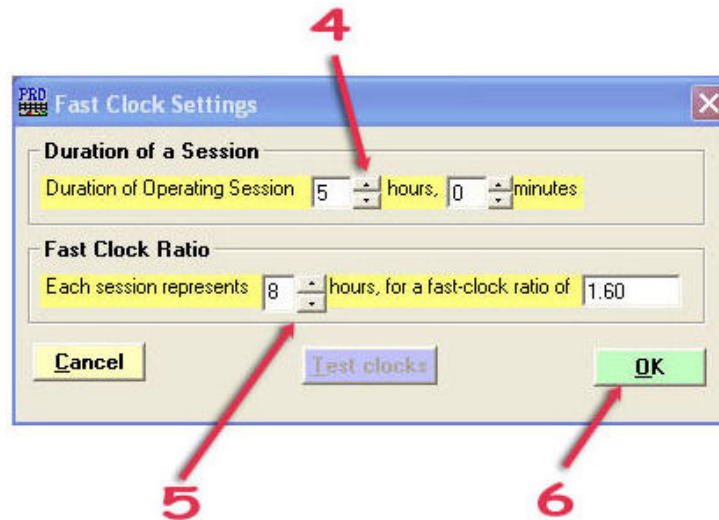

Figure 2-1
1. Figure 2-1 shows the Fast Clock settings that are supplied with the sample railroad.